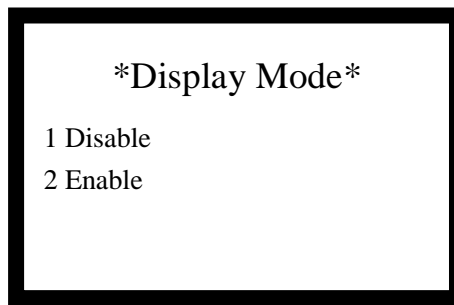

Fig. 6-25
- ✧ You can set the repeater panel to display network message or not by entering number 2, as shown in Fig. 6-25.